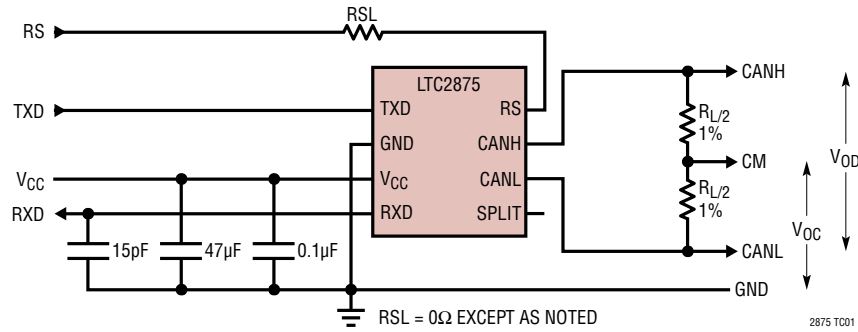

Figure 1. All Electrical Characteristic Measurements
**ELECTRICAL CHARACTERISTICS** The ● denotes the specifications which apply over the full operating temperature range, otherwise specifications are at  $T_A = 25^\circ\text{C}$ .  $V_{CC} = 3.3\text{V}$  or  $5\text{V}$ , Figure 1 applies with  $R_L = 60\Omega$ ,  $R_S = 0\text{V}$ , TYP values at  $V_{CC} = 5\text{V}$  unless otherwise noted. (Note 2)
**SWITCHING CHARACTERISTICS** The ● denotes the specifications which apply over the full operating temperature range, otherwise specifications are at  $T_A = 25^\circ\text{C}$ .  $V_{CC} = 3.3\text{V}$  or  $5\text{V}$ , Figure 1 applies with  $R_L = 60\Omega$ ,  $C_L = 100\text{pF}$ ,  $R_{SL} = 0\Omega$ ,  $R_S = 0\Omega$ , TYP values at  $V_{CC} = 5\text{V}$  unless otherwise noted. (Note 2)
The driver features adjustable slew rate for improved EME performance. The slew rate is set by the amount of current that is sourced by the RS pin when it is pulled below approximately 1.1V. This allows the slew rate to be set by a single slew control resistor RSL in series with the RS pin (Figure 1).